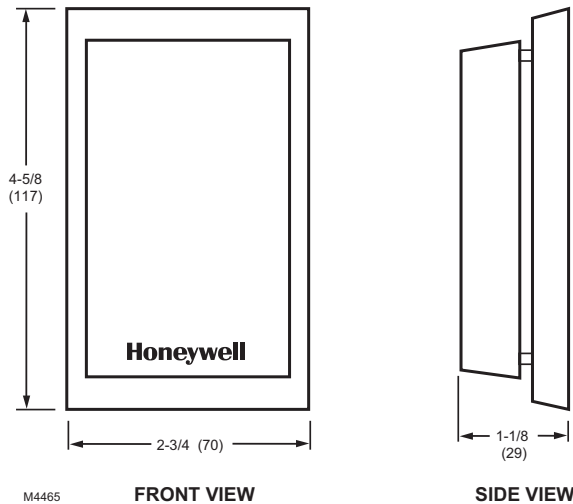

Fig. 4. C7189U Indoor Sensor dimensions in in. (mm).
- C7189U Remote Indoor Sensor: see Fig. 4.